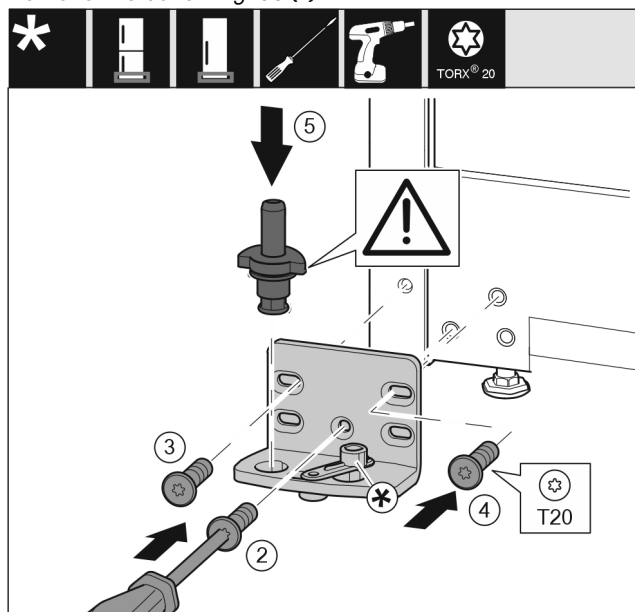

Fig. 36
- ▶ Place the bearing bracket on the other side and screw it on with a T20 screwdriver. Start with screw 2 at the bottom in the middle. Fig. 36 (2)
- ▶ Screw in screws 3 and 4 tightly. Fig. 36 (3,4)
- ▶ Insert the bearing pin completely. Make sure that the latching lug is pointing to the rear. Fig. 36 (5)
- ▶ Place the bearing bracket on the other side and screw it on with a T20 screwdriver. Start with screw 2 at the bottom in the middle. (2)*
- ▶ Rotate the soft stop connection 180°. Screw it in with a T20 screwdriver on the other side of the bearing bracket. (5)*
- ▶ Insert the bearing pin completely. Make sure that the latching lug is pointing to the rear. (6)*